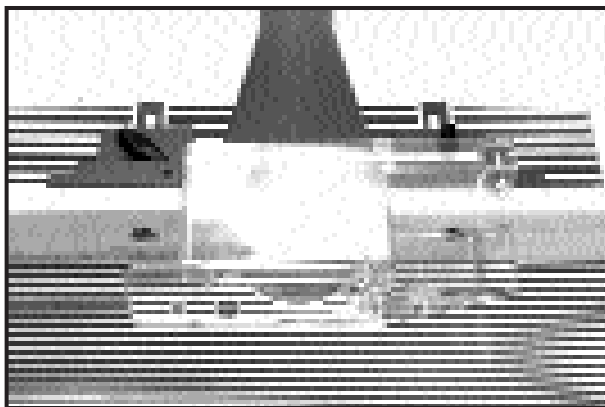

Fig. 10
9. Position the wooden fences to the fence brackets (see Fig. 10), and secure using one, $\frac{3}{8}$ "-16 x 1 $\frac{1}{2}$ " bolt and matching nut, through each fence and fence bracket.